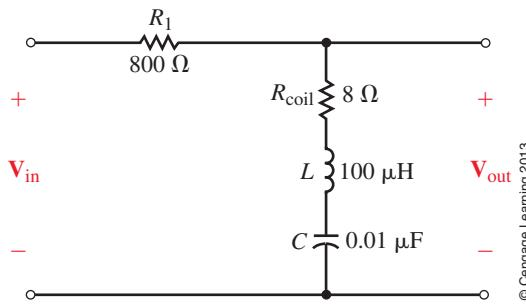

FIGURE 22–59
49. Given the circuit of Figure 22–60: